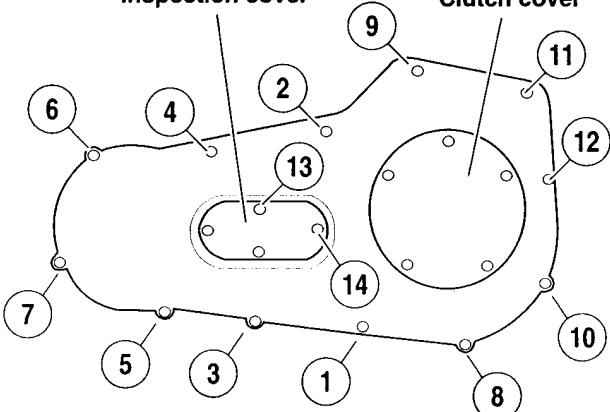

Figure 6-1. Primary Chaincase Cover
See Figure 6-1. The inspection cover is fastened to the inner primary chaincase at the top and rear screws (13, 14). Before removing the primary cover, be sure you remove the inspection cover's top and rear screws or the cover, primary cover and inner primary will be damaged.
- a. See Figure 6-1. First remove the top and rear inspection cover screws (13, 14).
2. Tower gasket (2)
2. See Figure 6-1. Tighten primary cover screws (1-12) to 108-120 in-lbs (12.2-13.6 Nm) in the sequence shown. Tighten inspection cover screws (13, 14) to 84-108 in-lbs (9.5-12.2 Nm).